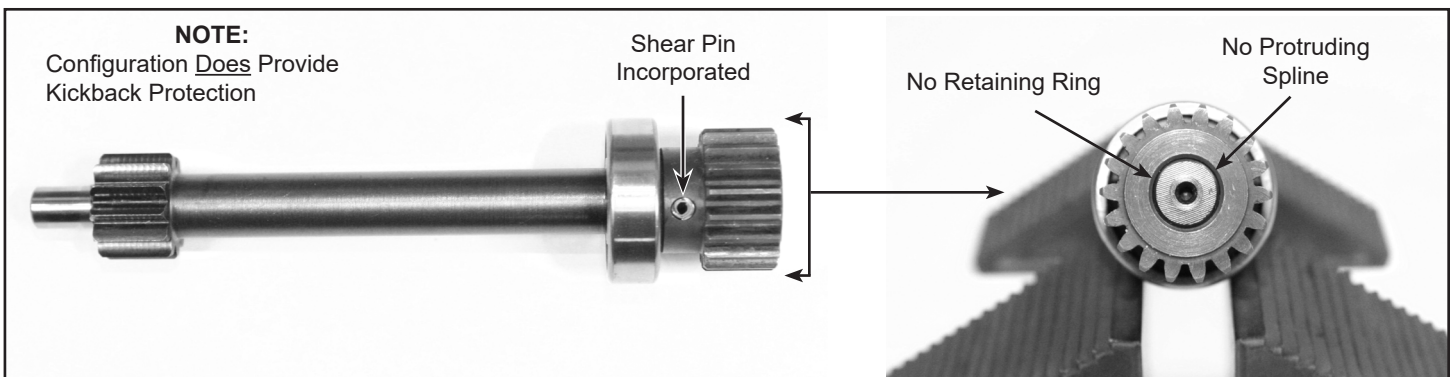

Figure 3 - Lay Shaft with Kickback Protection
- 2) If Figure 3 configuration is observed, the lay shaft does provide kickback protection. Reassemble the starter:
- c) Apply Loctite 222MS to the threads of the two machine screws (1).
- d) Assemble the motor adapter to the solenoid assembly and install two machine screws (1) finger tight.
- e) Torque the machine screws (1) 55-60 in-lbs.
- (3) **Option 3:** Reference applicable engine manufacturer's maintenance manual and replace the starter with one not affected by this Service Letter. Refer to 2.B, Materials Required.